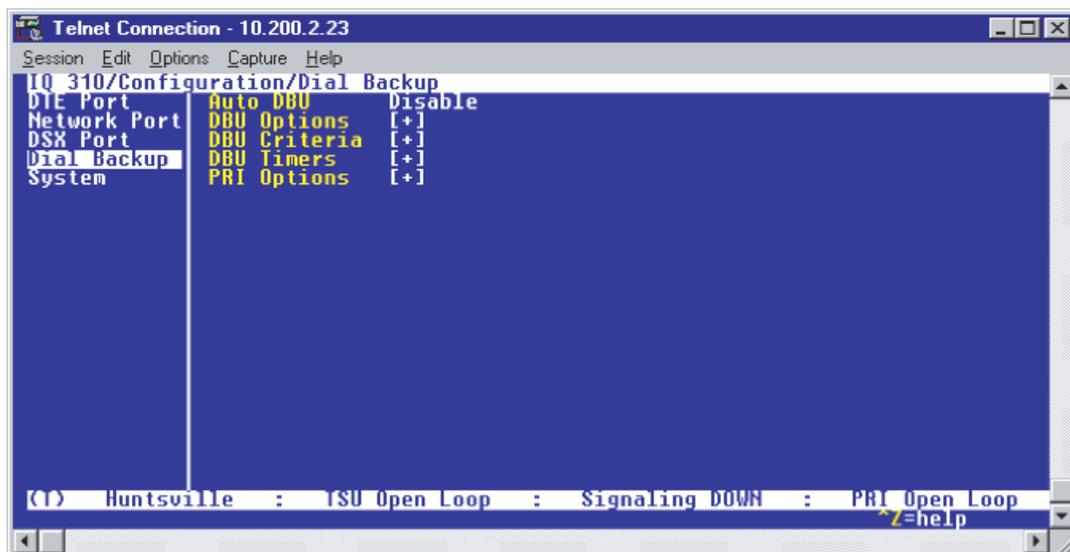

Figure 3. Dial Backup Menu
2. Using the arrow keys, select **DIAL BACKUP** from the **CONFIGURATION** menu shown in Figure 2; then press <ENTER>. The resulting screen is displayed in Figure 3.